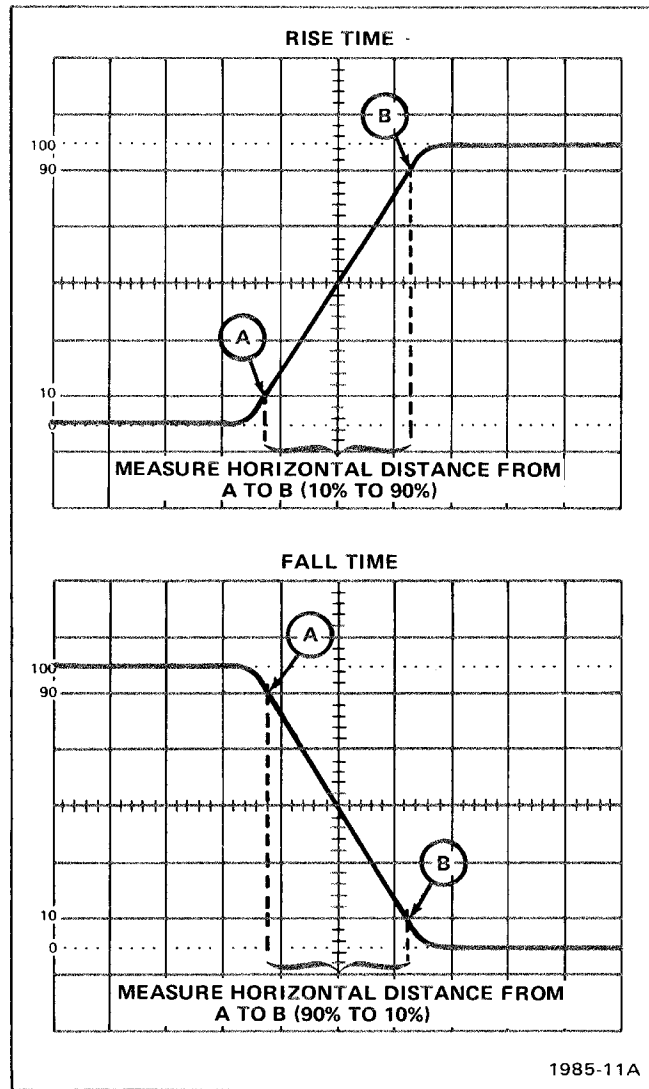

Fig. 2-6. Measuring the rise time and fall time of a displayed waveform.
- 3) Set the TIME/DIV switches and 7B90P POSITION control to display the rising or falling portion of the waveform within the center 8 graticule divisions as shown in Fig. 2-6 (see **General Operating Information** in this section for a discussion of timing measurement accuracy).
- 4) Determine rise time or fall time by measuring the horizontal distance in divisions between the point on the rising or falling portion of the waveform that is 10% and the point that is 90% of the total display amplitude (see Fig. 2-6)
Example: Assume that the horizontal distance from the 10% to 90% points is 2.5 divisions and the TIME/DIV setting is 0.1 μ s (see Fig. 2-6).